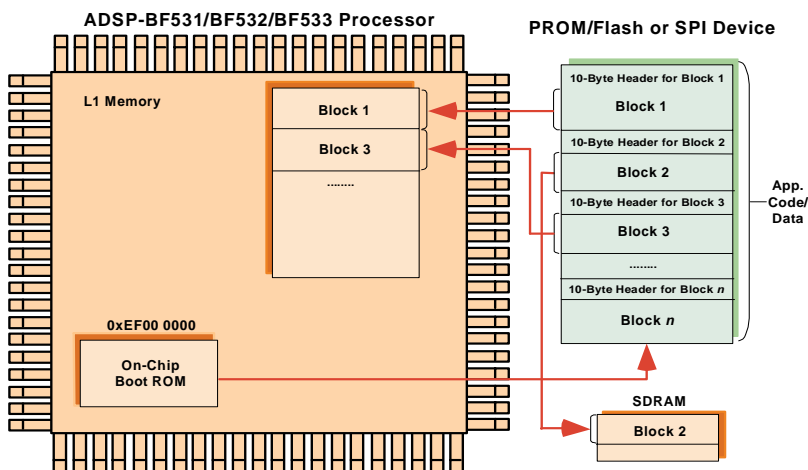

Figure 2-17. ADSP-BF531/BF532/BF533/BF534/BF536/BF537/BF538/BF539 Processors: Booting Sequence
3. The NOBOOT bit, if bit 4 of the SYSCR register is not set, performs the full boot sequence (Figure 2-17).
The loader utility converts the application code (.dxe) into the loadable file by parsing the code and creating a file that consists of different blocks. Each block is encapsulated within a 10-byte header, which is illustrated in Figure 2-17 and detailed in the following section. The headers, in turn, are read and parsed by the on-chip boot ROM during booting.